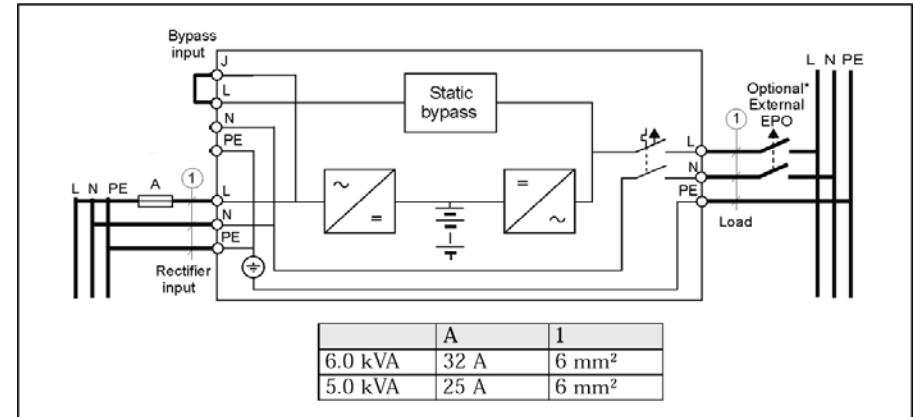
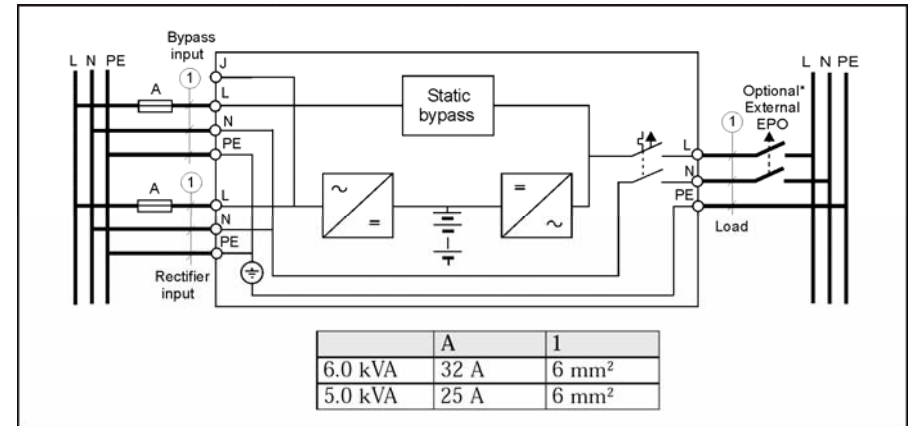

Fig. 2
Fig. 3.
- Ensure that the installation site has all electrical connections properly carried out. In addition, refer to figures 2 and 3 to check the fuse and cable dimensions.
- Refer to figure 2 for single cable input and figure 3 for dual cable input. Connect the UPS according to these diagrams. If installing dual cables, the interconnection jumper (b*) needs to be removed as in figure 2. Fuse and cable sizes are given in figure 3.
- At the back of the unit you will find the Emergency Power Off (EPO), which when open will immediately shut down the logic circuit output of the UPS as in figure 2 and 3. Wiring the EPO signal is optional.
figures 2 and 3 for proper installation. Refer to local wiring rules.